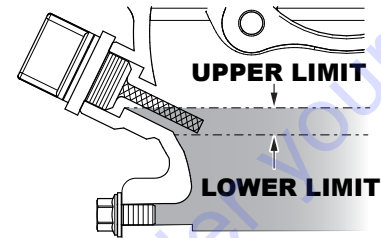

Figure 18. Checking Engine Oil
4. Check the oil level shown on the dipstick (Figure 18). If the oil level is low, fill to the edge of the oil filler hole with the recommended oil type (Table 6). Maximum oil capacity is 0.61 quarts (0.58 liters).